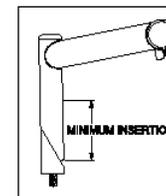

Fig. 1
4. On threaded steerers, insert stem to a minimum depth according to CPSC and JIS standards. The stem must be inserted to a minimum engaging length not less than 2.5 times the stem diameter from the lowest end of the stem, not the wedge (see Fig. 1).
**FIG. 1. REPLACEMENT OF THE ASSEMBLY MUST BE DONE TO CHANGE LENGTH, DIAMETER, OR HEADSET TYPE (THREADED OR THREADLESS). DO NOT REMOVE OR REPLACE THE STEERER TUBE, THIS COULD RESULT IN LOSS OF CONTROL OF THE BICYCLE WITH POSSIBLE SERIOUS AND /OR FATAL INJURIES.**